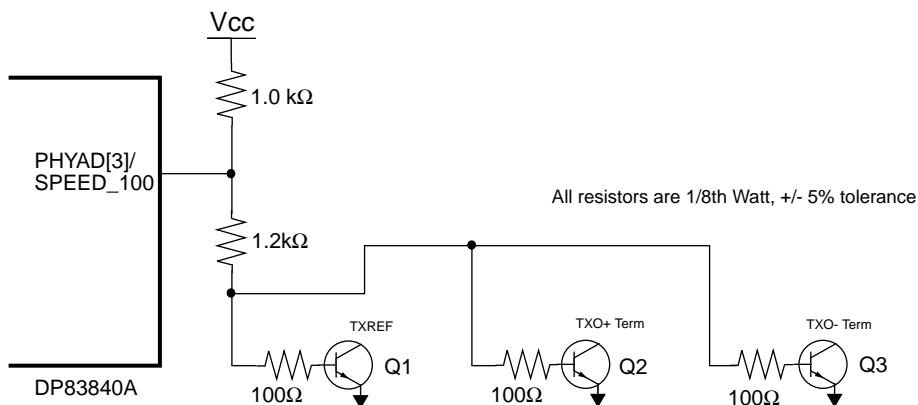

Figure 24. Recommended Control Circuitry and Valid PHYAD[3] Logic High Latch-in Value
1.2k Ω resistor with respect to proper transistor biasing. Figure 24 illustrates the recommended connection of external circuitry when using PHYAD[3] / SPEED_100 to control transistors used for Common Magnetics implementations.